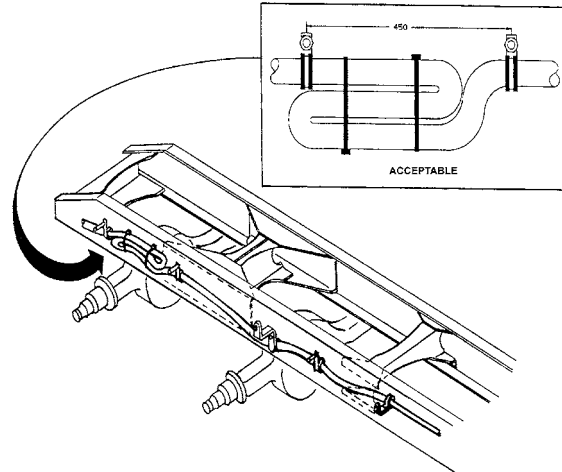

Fig. 1: Acceptable fold-back of excess cable
- Excess cable must fold back on itself only once (see illustration, Fig. 1: Acceptable fold-back of excess cable, page 6).